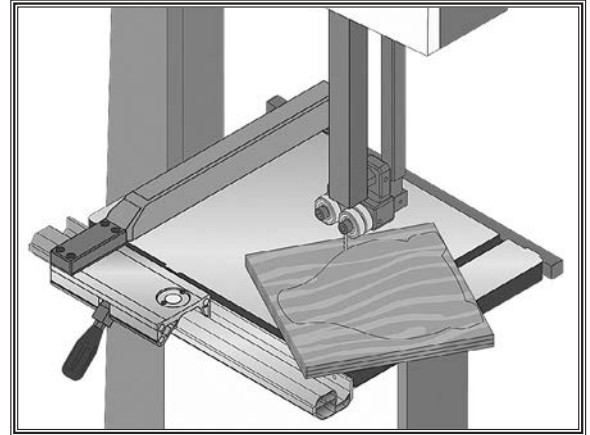

Figure 78. Example of a stacked cut setup.
5. Cut stack of pieces along your layout line as though you were cutting a single piece (see **Figure 78** for an example of a stacked cut setup).